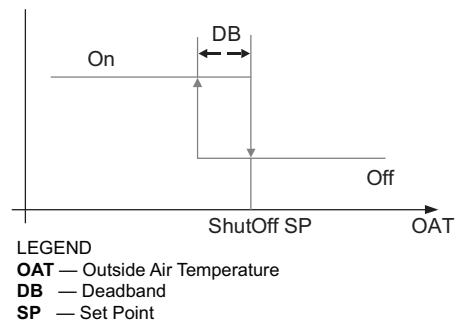

Fig. 67 — Hysteresis Settings
Hysteresis setting (DB) defaults to 2°F (-16.6°C). See Fig. 67.